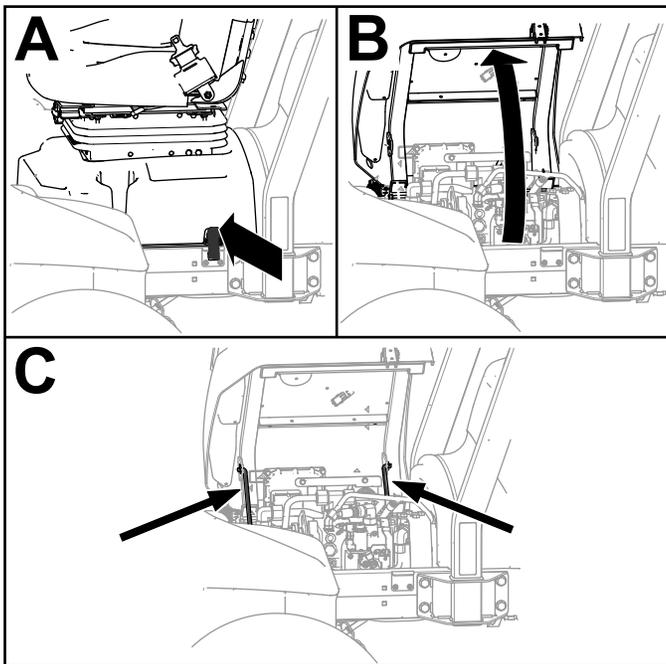

Figure 104
1. Unlatch the seat base (A of Figure 104).
2. Tilt the seat and base open (B of Figure 104).
3. Support it with the prop rods (C of Figure 104).